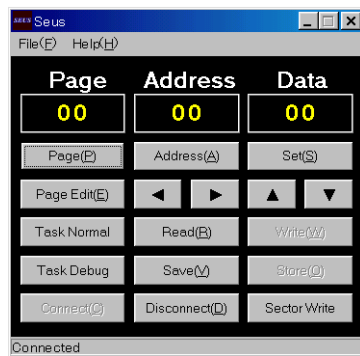

Fig. 6-2-1.
- 6) Click [Connect] on the SEUS screen. If the connection is normal, the SEUS screen will be as shown in Fig. 6-2-1, indicating the “connected” state.